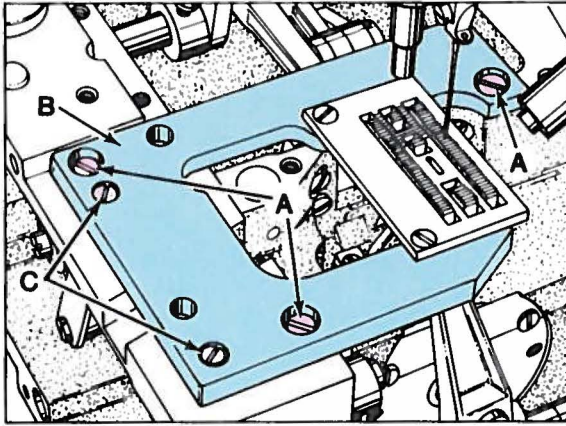

Fig. 10
Feed dog should be centered in throat plate with equal clearance on all sides and ends. At highest point of travel, feed dog teeth should extend the depth of a tooth or approximately 3/64 inch (1.2mm) above throat plate and parallel to same. Minor right to left adjustments can be made by loosening three screws (A, Fig. 10) in throat plate support (B). There are two adjustable ferrules used to align throat plate support. Loosen two screws (C) which secure the ferrules and reposition throat plate support slightly as required, considering both needle hole and feed dog slots. Tighten two screws (C) first, then tighten three screws (A).